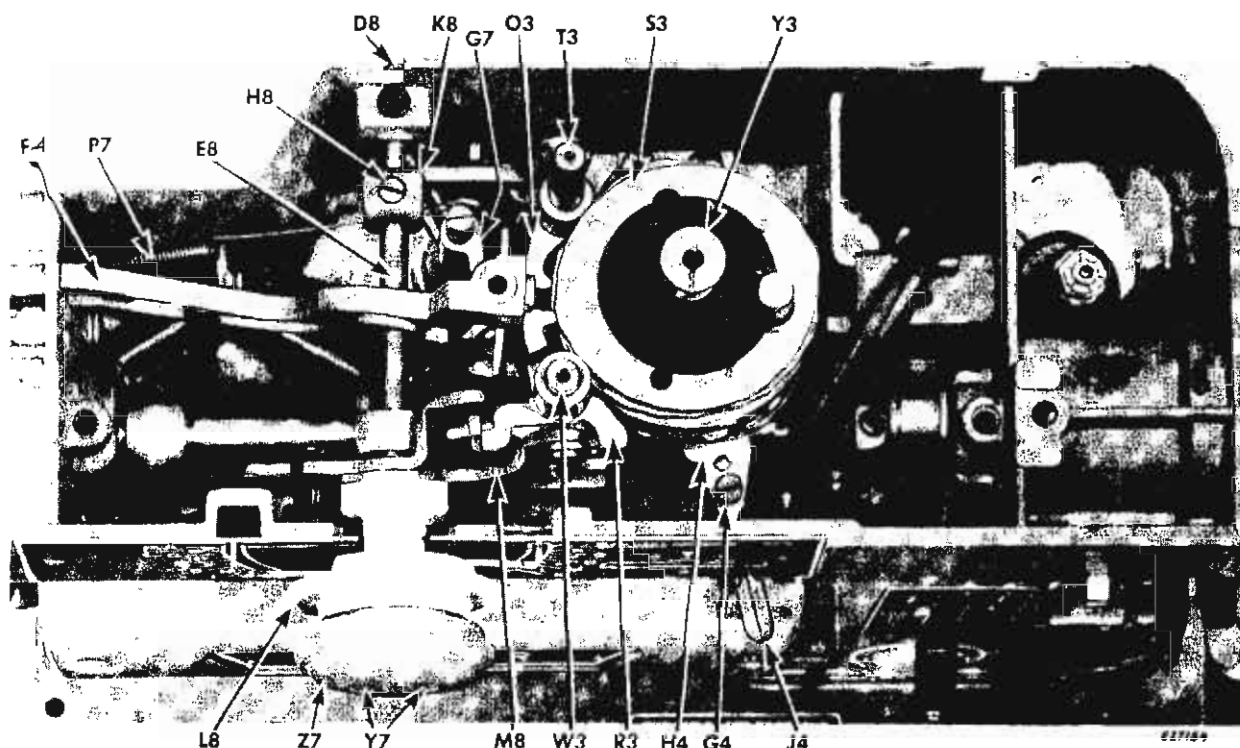
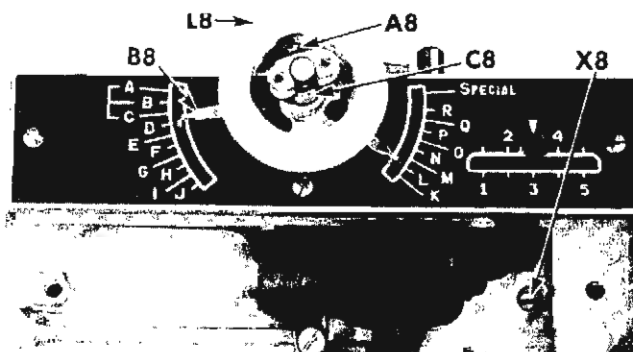
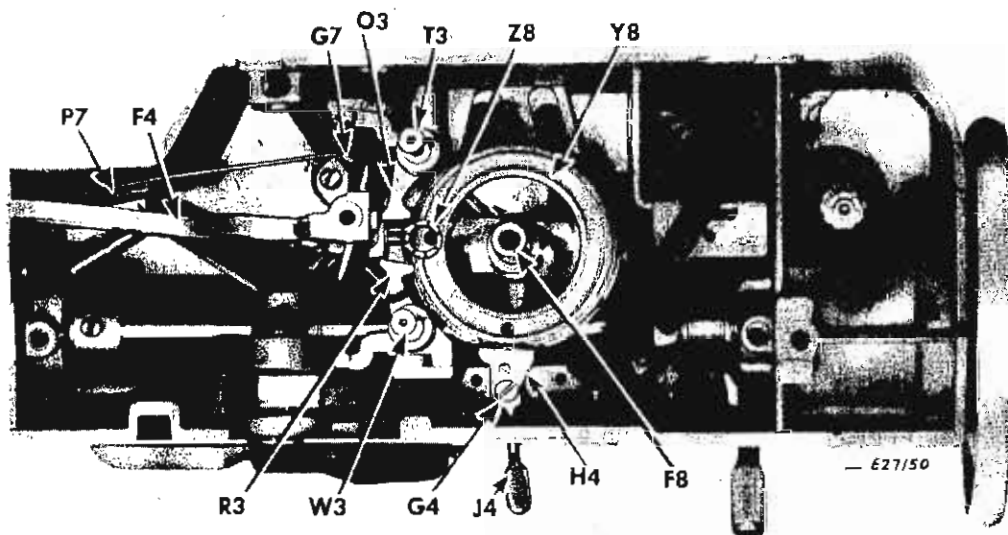

Fig. 321. Cam Stack and Selector Arm Shaft
Fig. 322. Removing Selector Arm Shaft
Fig. 323. Showing Location of Ball Pivot on Driving Arm
3. Remove large screw stud **Y3**, Fig. 321 with spring and remove cam stack **S3**.
2. Remove two screws **Y7** and knob **Z7**, Fig. 321.
3. Remove screw **A8**, indicator **B8** and spring **C8**, Fig. 322.
4. Remove screw **D8**, Fig. 321, at rear of selector arm shaft **E8**.
5. Remove screw **H8** and withdraw shaft **E8** from front of arm, releasing rear selector arm **K8**, and front selector arm and knob **L8**, Fig. 321.
7. Remove followers **O3** and **R3**, Fig. 321.
1. Replace followers **O3** and **R3**, as shown in Fig. 321.
2. Replace knob **L8** so that bracket on front selector arm **M8** slides into its slot in front follower **R3**, Fig. 321.
3. Replace selector arm shaft **E8** slipping it through front selector arm knob **L8** and rear selector arm **K8**, Fig. 321. Make certain that bracket on rear selector arm **K8** slides into its slot in follower **O3**.
4. Replace and securely tighten screw **H8**, Fig. 321 so that screw clamps down on counterbore on shaft.
5. Replace spring **C8** and indicator **B8**, Fig. 322. Fasten with screw **A8**, Fig. 322.
6. Replace screw **D8**, Fig. 321 on rear of arm selector shaft.
7. Replace knob **Y7**, Fig. 321. Fasten knob to indicator **B8**, Fig. 322 with two screws **Z7**, Fig. 321.
4. Lift needle bar driving arm, **F4**, **Fig. 323** from machine.
machine, so that ball pivot **Z8**, **Fig. 323** rides in socket provided for it in pattern selector **Y8**, as shown in **Fig. 323**.
CAUTION: Make certain tension arm **G7**, **Fig. 323** is in correct position in relation to needle bar driving arm, as shown in **Fig. 323**.
(See Fig. 323)
3. Remove spring **P7**, **Fig. 323**.
6. Loosen set screw **X8**, **Fig. 322, page 158** and remove entire cam stack assembly **S3** with worm wheel eccentric shaft **F8**, **Fig. 323** and screw stud **Y3**, **Fig. 321, page 158**.
2. Make certain that needle bar driving arm ball bearing pivot **Z8** is engaged with pattern selector, as shown in **Fig. 323**.
5. Tighten set screw **X8**, **Fig. 322** at front of machine arm.
6. Replace spring **P7**, **Fig. 323**.